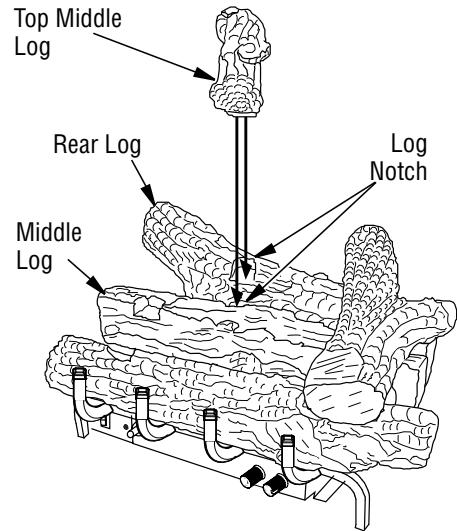

Figure 25 - Installing Middle Log
5. Place the top middle log onto the rear & middle logs as shown in **Figure 25**. Make sure to match up the shape on the bottom of the top middle log with the notches in the rear and middle logs.